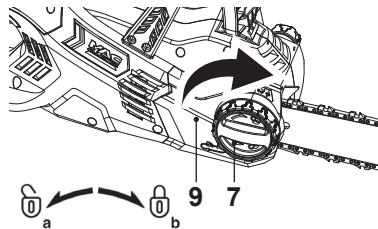

Fig. 7
8. Replace the cover (9) and slightly tighten the locking wheel (7) (Fig. 7, b). Do not tighten the locking wheel (7) completely; saw chain tensioning is required first.